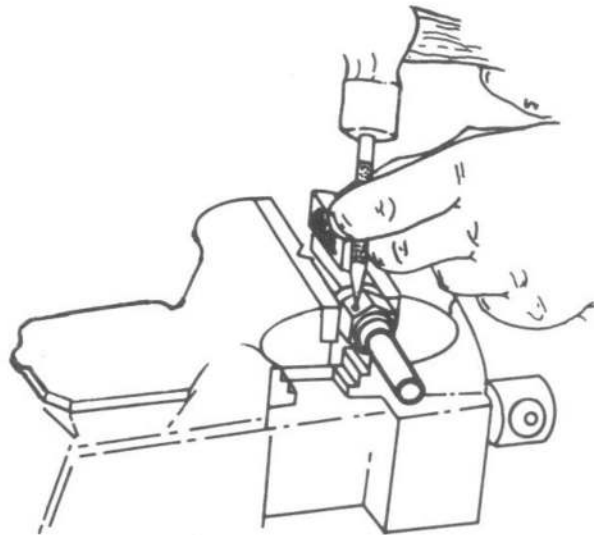

Fig. 3 Setting the retaining wire
(5) Drive the wire into the nut by tapping with a small hammer and finally by using a flat punch to set the wire end below the hexagonal surface (fig. 3).